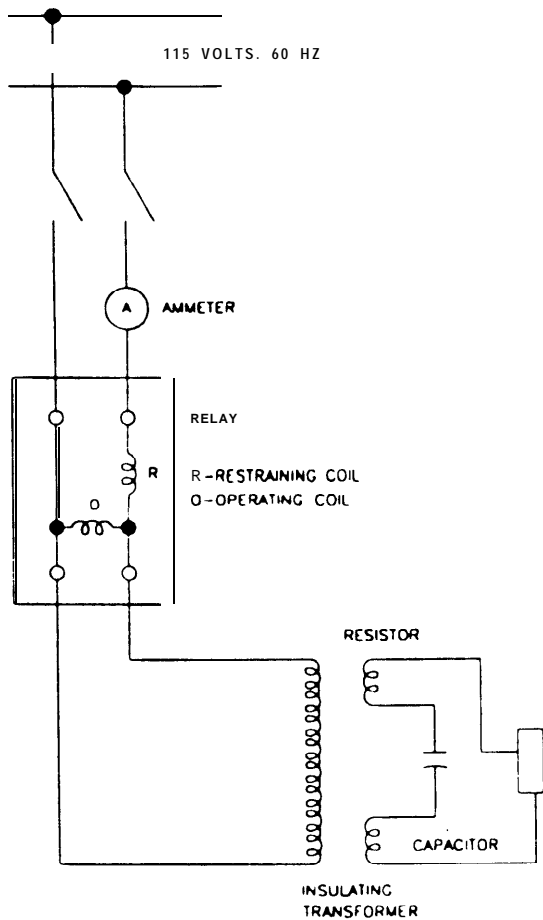

Figure 11-5. Typical test connection for a pilot wire relay
*d. Pilot wire relays.* Test the relay for minimum pickup, operating time, and restraint torque. Check the circuits for continuity and reversed connections. An overall test should be made to check the complete installation, including the pilot circuits and external devices associated with the installation. For test connections, see figure 11-5.